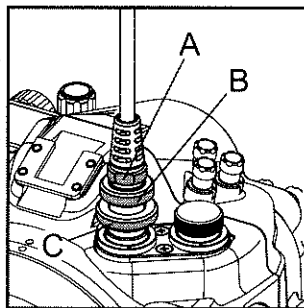

Fig.13
4. Rotate part (B) clockwise till secure (Fig. 13).
5. Turn part (C) till it securely holds the bulkhead connector to stay.
6. To disconnect, loosen and release the connector end by reversing steps 1-5 above. Pull part (A) straight out. Never pull, twist or bend the cord for disconnection.